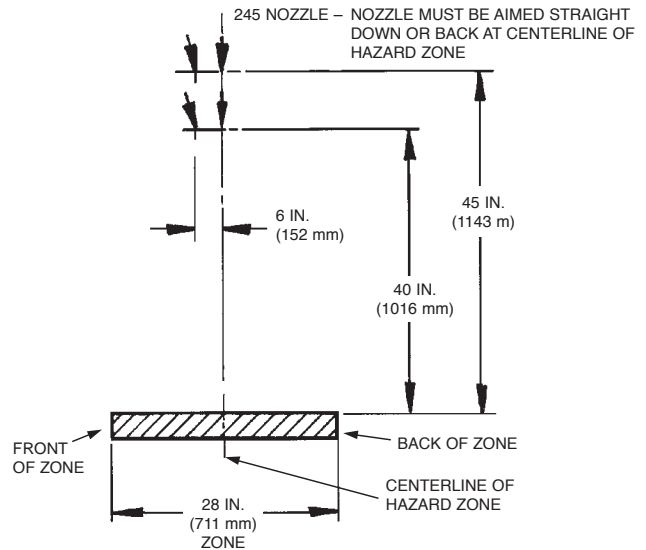

FIGURE 4-107
3. The overlapping appliance nozzles must be located 40 in. to 45 in. (1016 mm to 1143 mm) above the top surface of the protected appliances. See Figure 4-107.
4. The overlapping appliance nozzles must be located 0 in. to 6 in. (0 mm to 152 mm) forward of the centerline or aimline of the selected hazard zone. See Figure 4-107.